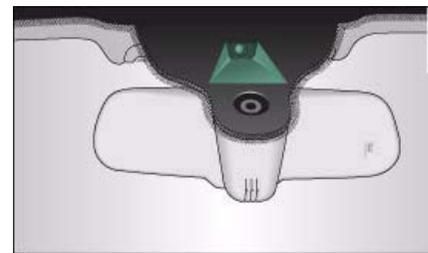

Fig. 159 Windscreen: Camera window for Audi lane assist
- Make sure that the camera window ⇒ *page 145*, fig. 159 is not covered with stickers or similar objects.
- The outside of the camera window ⇒ *page 145*, fig. 159 is dirty or frosted. Please remove dirt or ice from this area of the wind-screen.